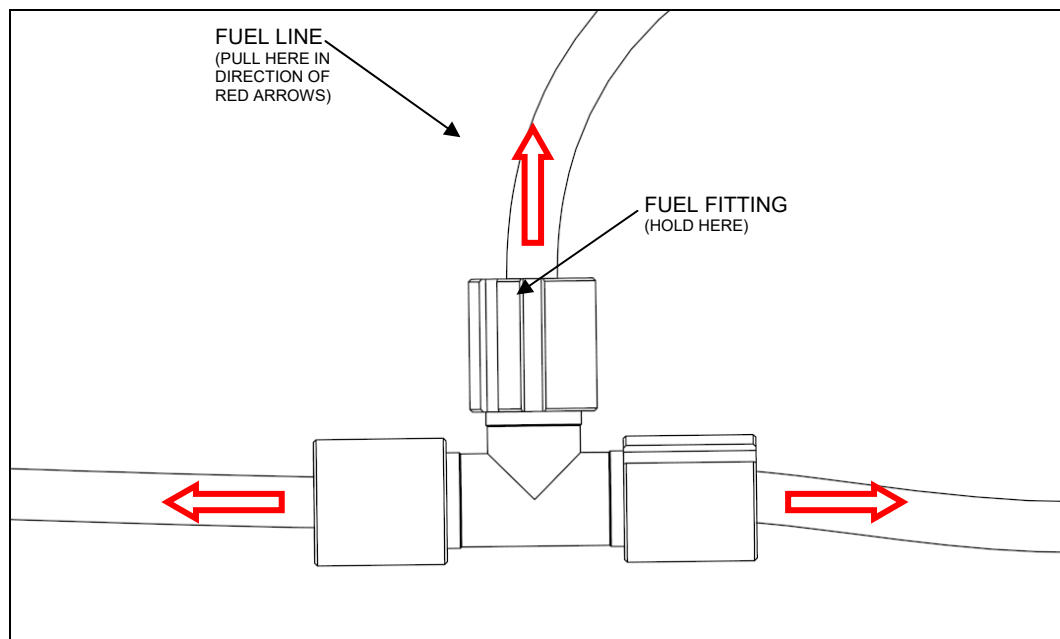

Figure 2 - Tensile Force Application
4. Apply approximately 7-11 pounds of tensile force on all Nylon fuel lines going through these fittings, by holding the fitting, and pulling on each fuel line. See Figure 2.
- Apply approximately 7-11 pounds of tensile force on all aft Nylon fuel lines going through these two fittings (one elbow and one tee). See Figure 2.